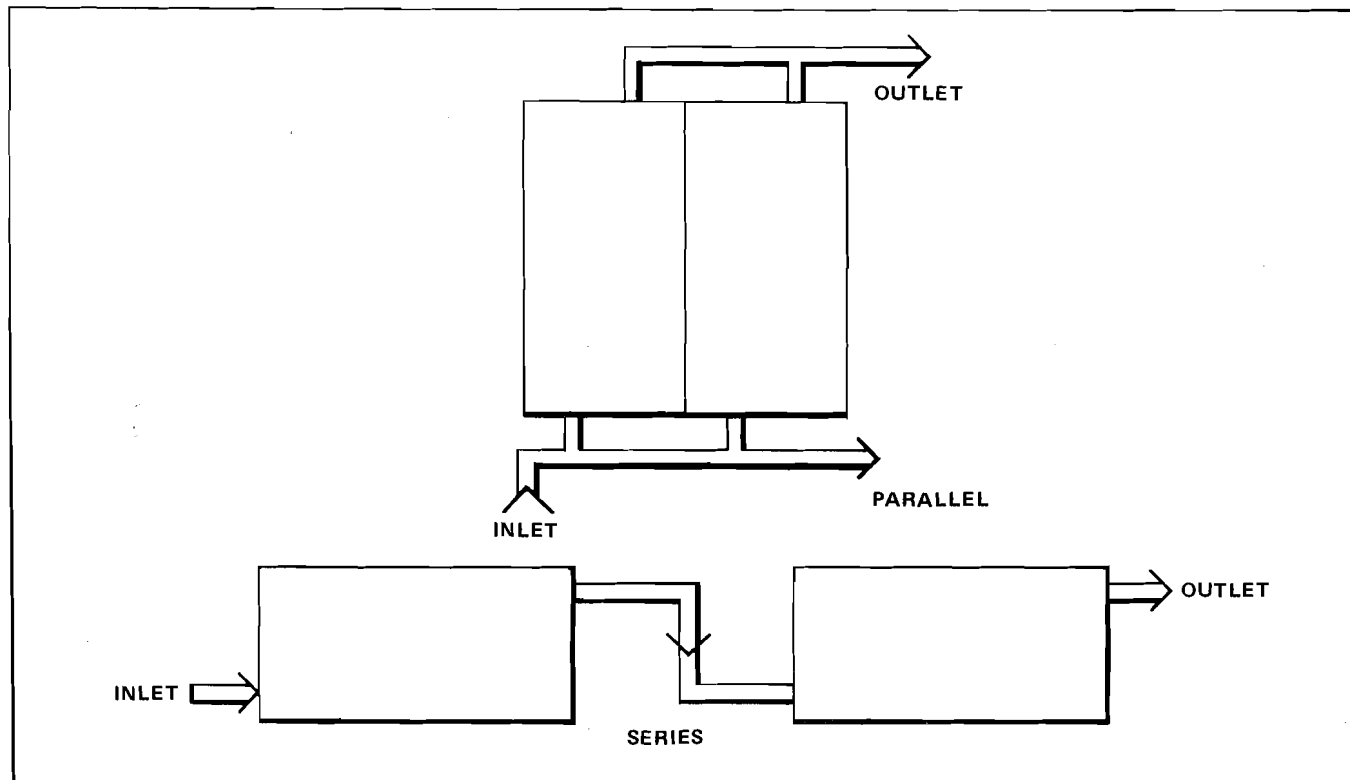

FIGURE 5 – TYPICAL COLLECTOR CONNECTIONS
- (1) Collector orientation should be as close to south as practical. Deviations more than 45° from true south are not recommended. Collector tilt should not exceed $\pm 15^{\circ}$ from local latitude.
- (2) Collector shading should always be avoided, but particularly during the hours of 10:00 A.M. – 2:00 P.M.
- (3) Collector banks may be piped in either a parallel reverse-return mode or a series mode with direction of flow in both instances from bottom to top (see figure 5).